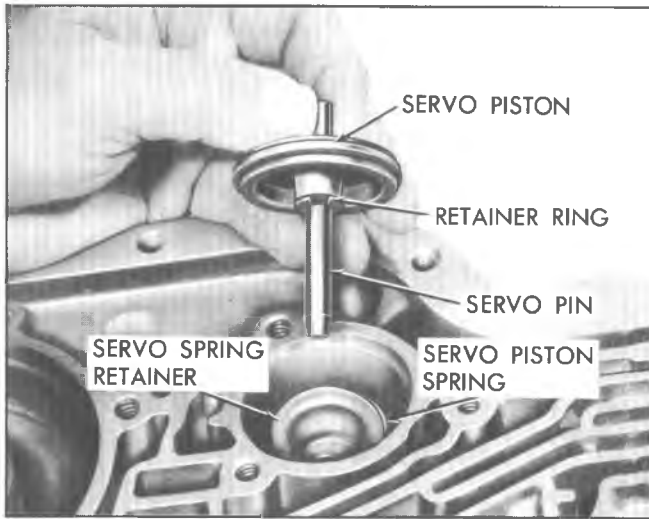

Fig. 16T--Removing Front Servo Piston, Retainer Ring, and Pin
9. Remove front servo piston, retainer ring, washer, pin, spring retainer and spring from transmission case (fig. 16T).